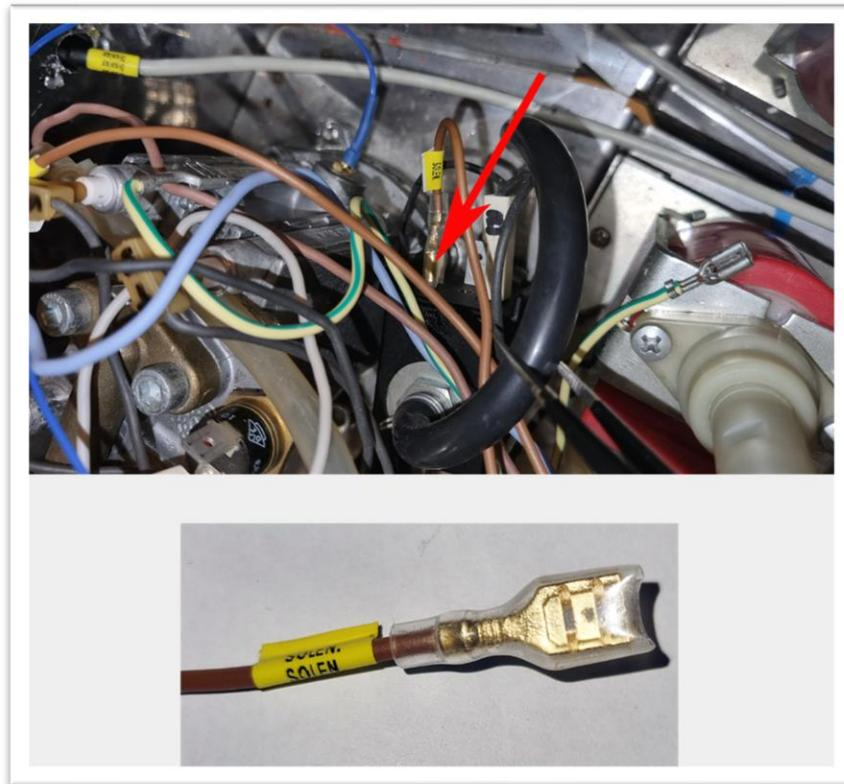

Fig. 10.7
- SOLEN connector will go to 3 way valve. If you dont have the 3 way valve then this cable does not need to be connected. Insulate it. (fig. 10.7)